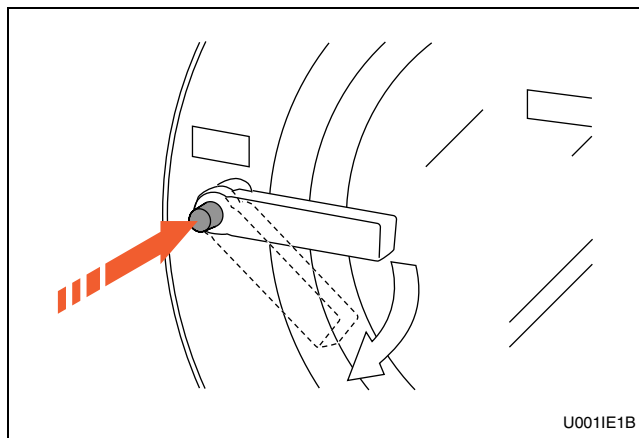
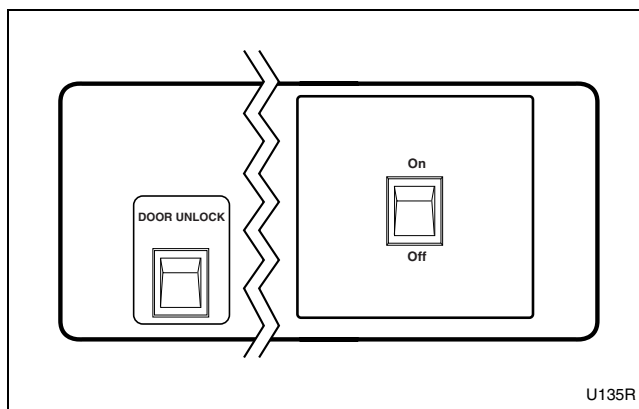

Figure 3
Figure 4
**For non-coin models:** Turn on the On/Off switch on the front panel to the On position. Refer to Figure 4.
2. Push button and turn handle clockwise to open. Refer to Figure 3.
**For non-coin models:** Press and hold the DOOR UNLOCK button on the left side of the control panel while performing the above step. Refer to Figure 3 and Figure 4.